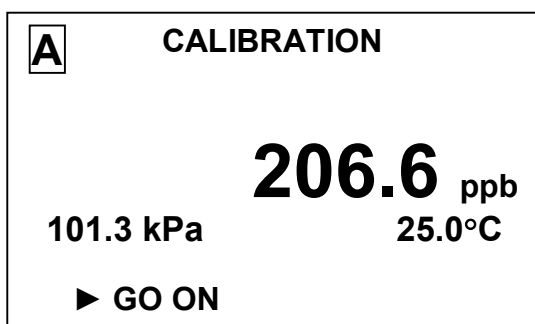

Fig. 2.12
- 3 Move the cursor against "HYDROGEN ppb" (on calibration against a solution with known DHC) or "HYDROGEN % VOL." (on calibration against GSO-CGM or in a calibrator) and press the "^{menu}enter" button. The display shown in Fig. 2.12 or 2.13 will appear.